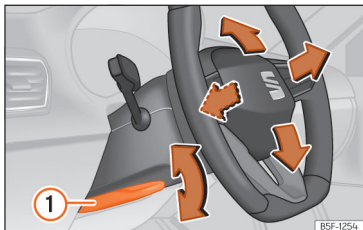

Fig. 64 Lever in the lower left side of the steering column.
- Pull lever »» Fig. 64 ① down, move the steering wheel to the desired position and lift the lever back up until it locks.
- After adjusting the steering column, push lever »» Fig. 64 ① firmly upwards so that the steering wheel does not accidentally change position while driving.